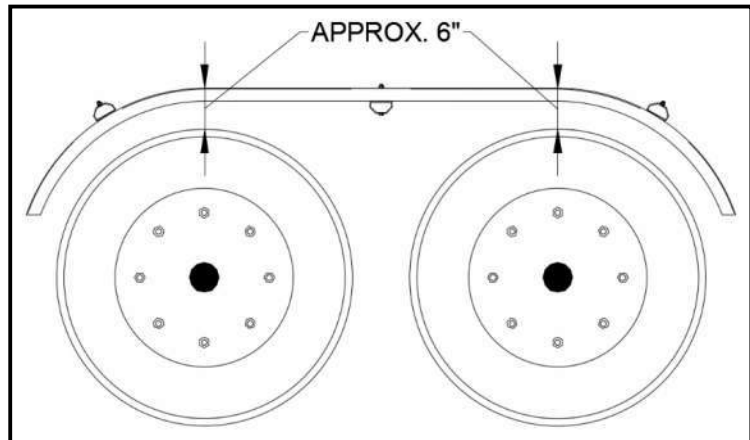

Figure 1
2. Center fender above tire using block to maintain the proper height. Fender should be approximately 6" above tire to allow for suspension movement (see Figure 1). A maximum width of 48" from center of the truck to the outside edge of the fender should be maintained (see Figure 2).